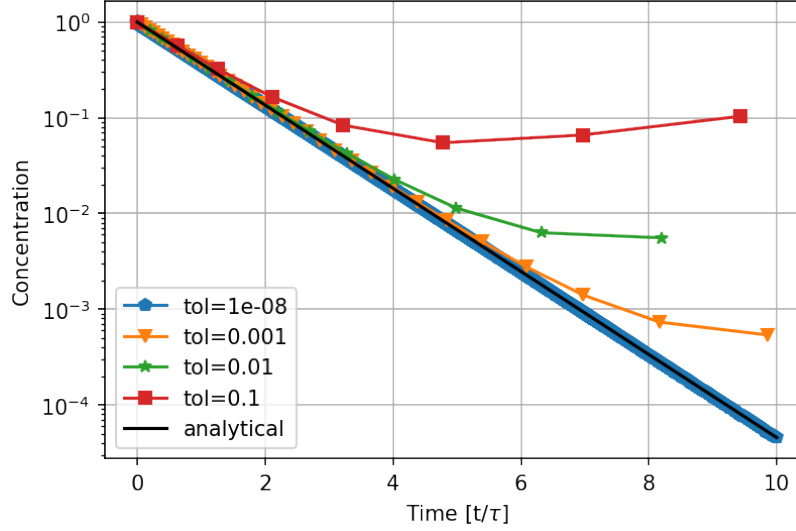

Figure 3: The concentration in the tank using adaptive Euler. Number of Euler steps are: 3006, 117, 48 and 36 for the different step sizes.
In figure 3 the result of the implementation is shown. Note that the number of steps for an accuracy of  $10^{-6}$  is only about 3000. Without knowing anything about the accuracy, we would have to assume that we needed a step size of the order of  $h$  in order to reach a local accuracy of  $h$  because of equation (12). In the